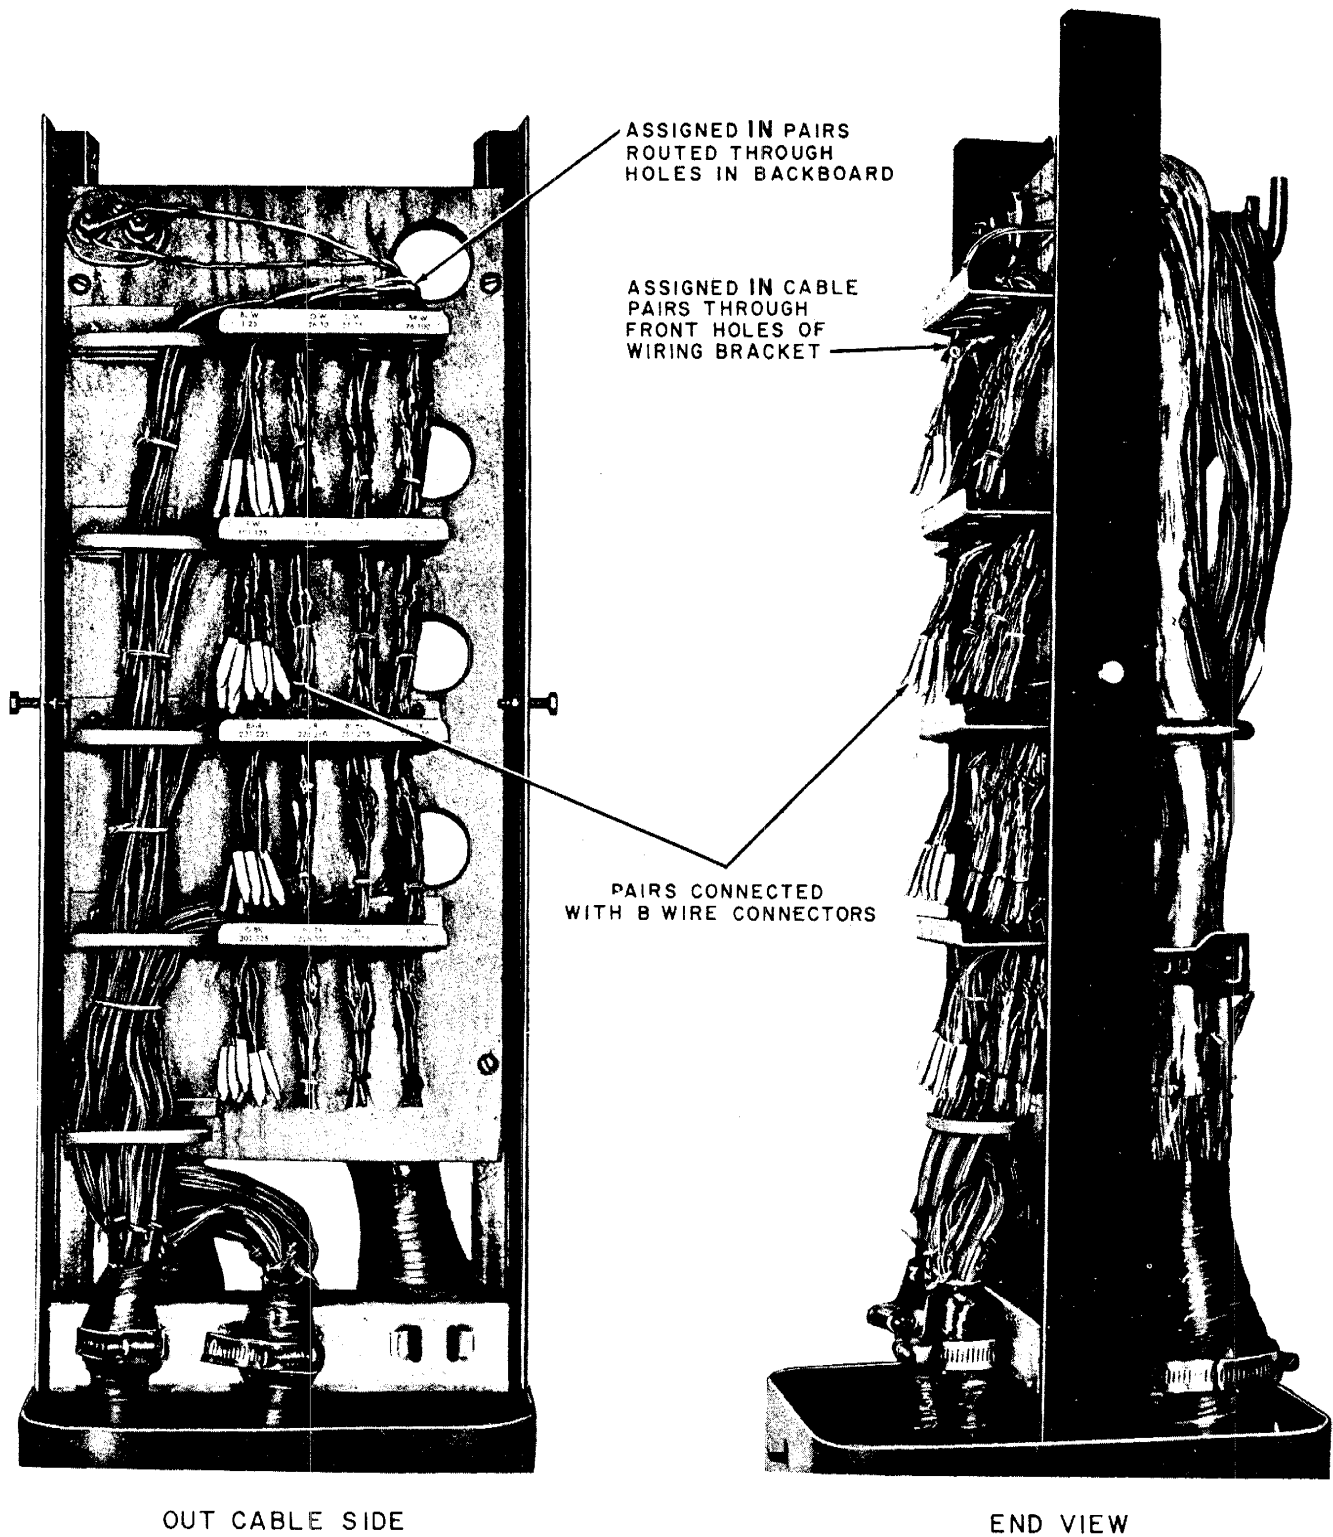
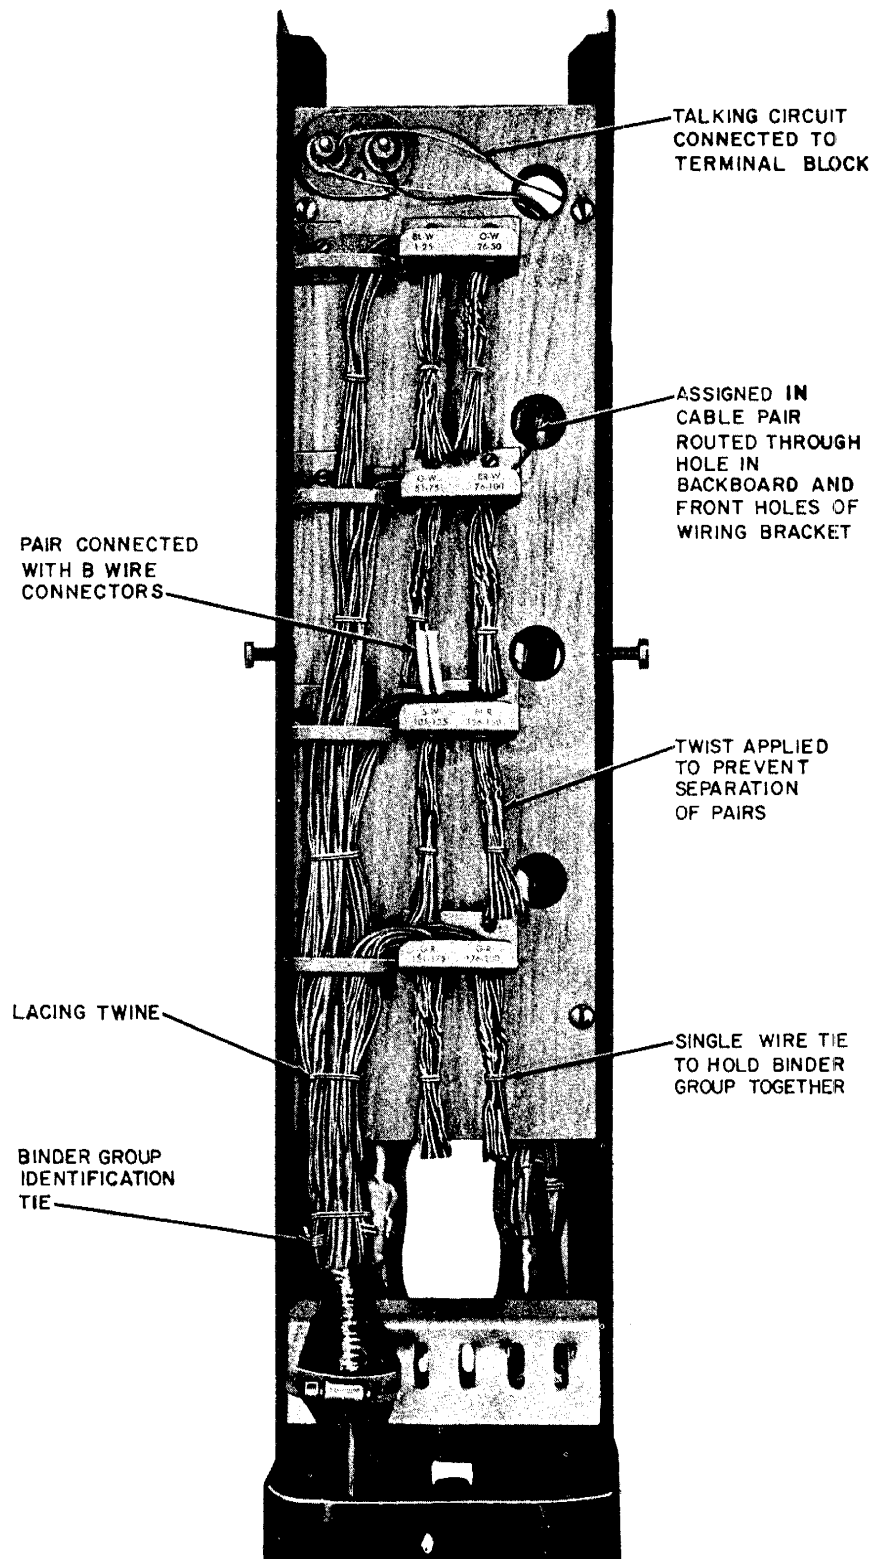
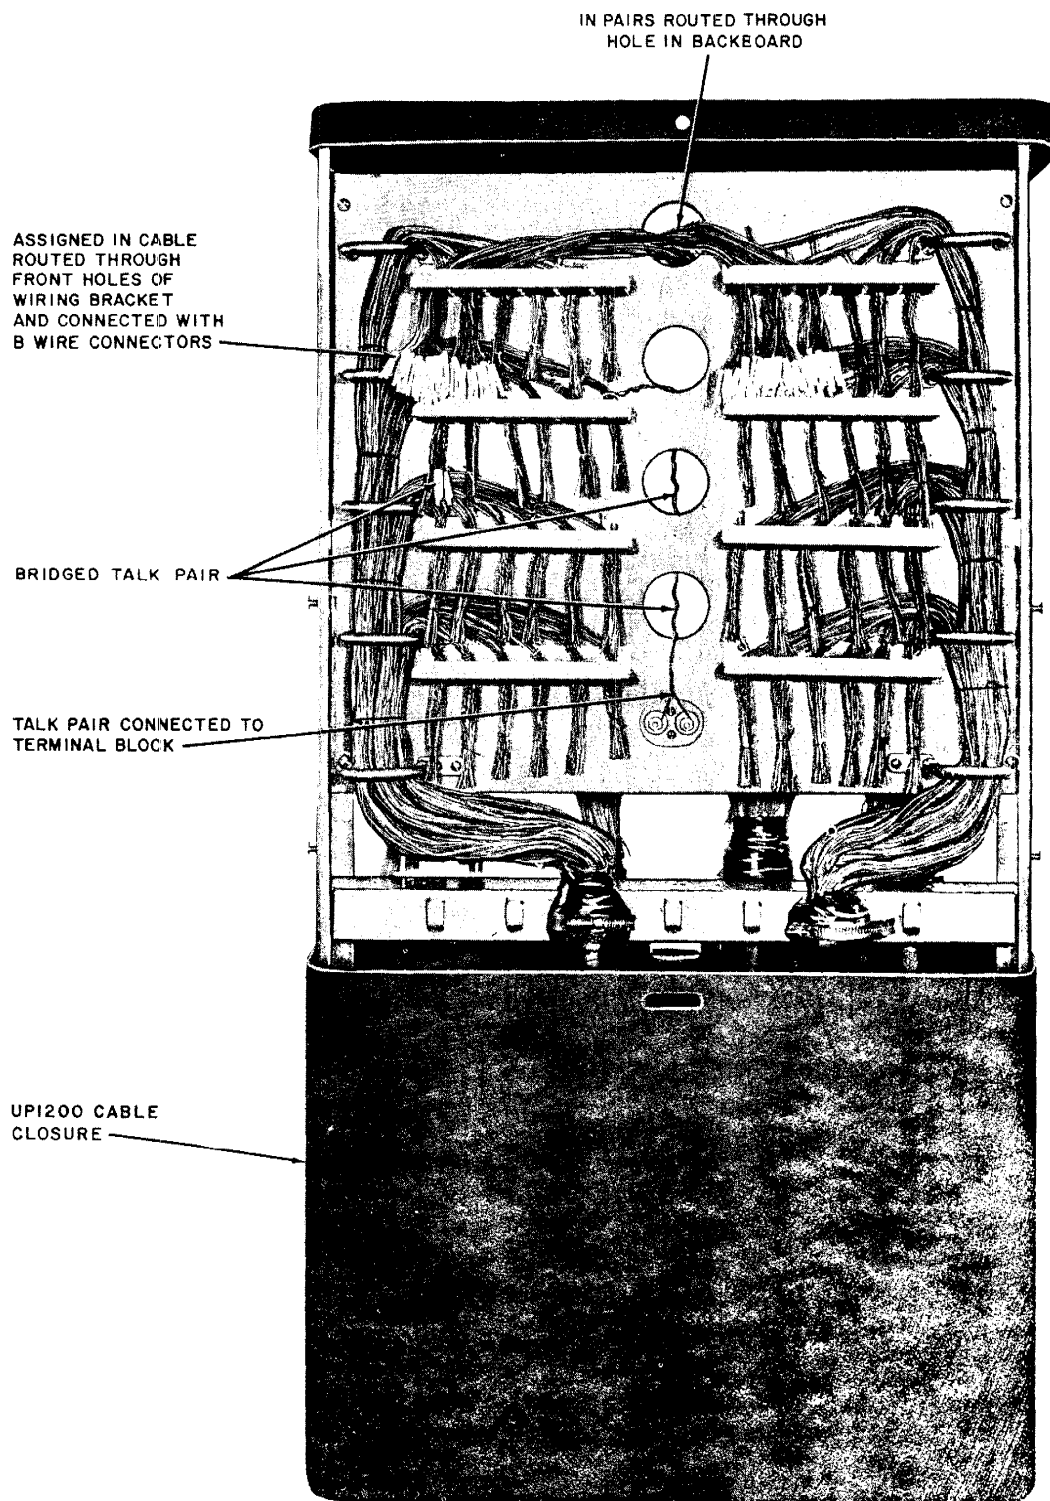

Fig. 6—E Backboard
Fig. 7—F Backboard
Fig. 8—D Backboard
- Revise Fig. 6 to illustrate wiring arrangement of the E Backboard used in conjunction with G Cable Closure which replaces the nongastight 38-Y-B Cable Closure.
- Revise Fig. 7 to illustrate wiring arrangement of the F Backboard used in conjunction with H Cable Closure which replaces the nongastight 38-Y-C Cable Closure.
(d) **Access Points in Buried Plant**—The E Backboard (Fig. 6), the F Backboard (Fig. 7), and the D Backboard (Fig. 8), used in conjunction with the G, H, and UP-1200 Cable Closures, respectively, are used for access points